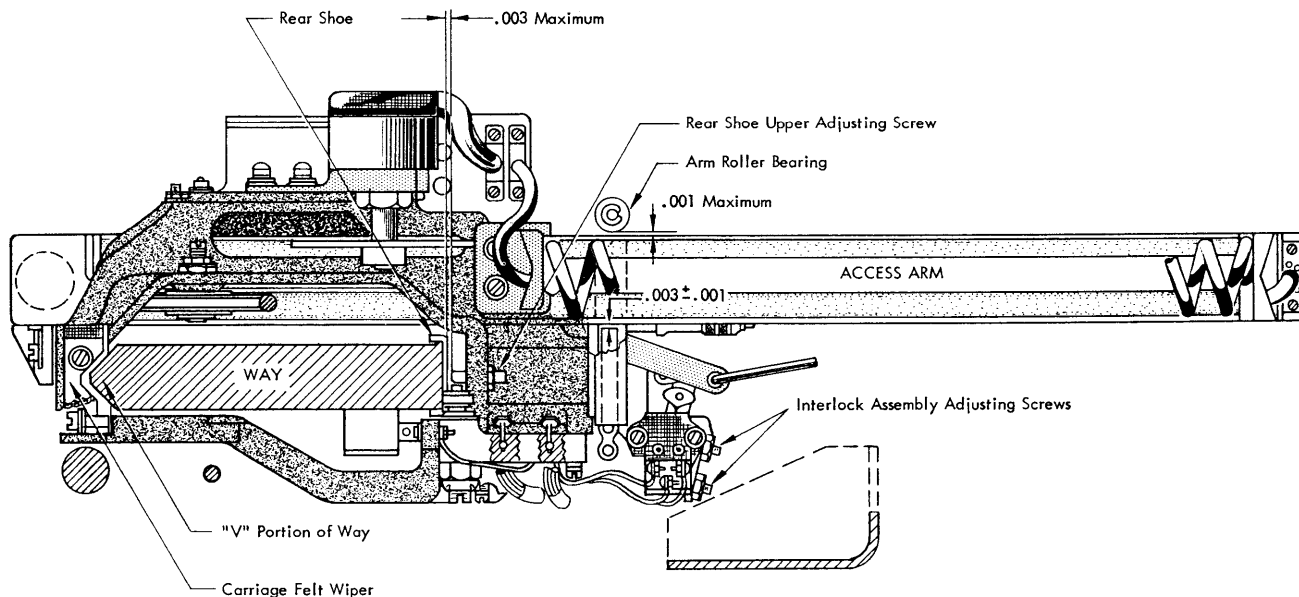

Figure 64. Access Arm and Carriage Assembly (top view)
2. Roller bearing to arm clearance, .001" maximum (See Figure 64).
- a. Apply disk detent air to pull the carriage against the "V" portion of the way (See Figure 64).
- b. Adjust the upper and lower adjusting screws for a .003" maximum clearance between the screws and rear shoe (Figure 64).
- b. Rotate the roller eccentric stud for a maximum of .001" roller to arm clearance. Tighten lock nut (See Figure 64).
4. Disk detent interlock (Figure 64).